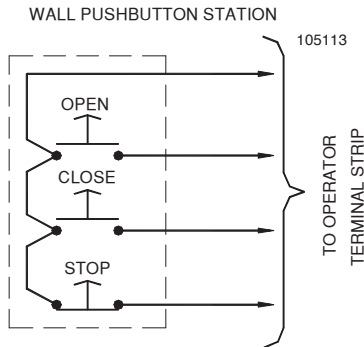
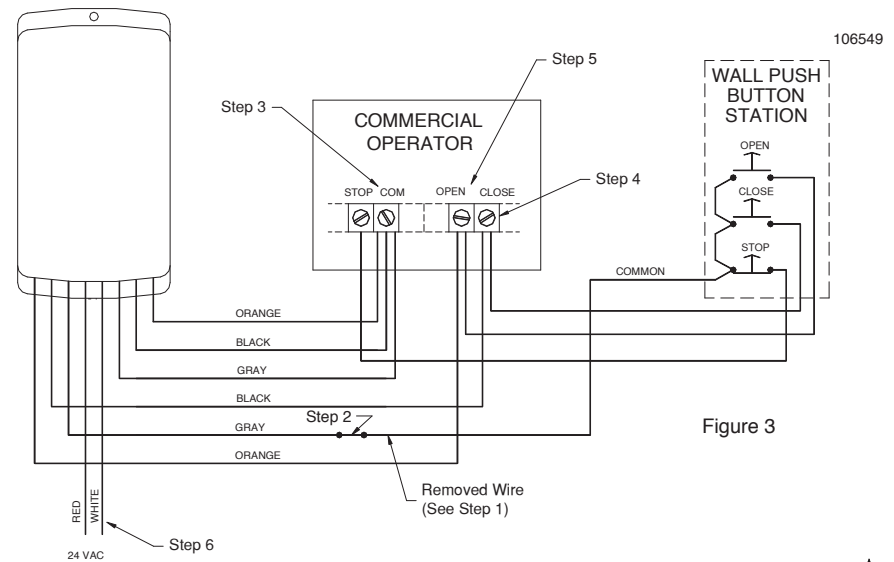

Figure 2
Figure 3
- Check the wire & connections in the STOP circuit. Refer to Figure 3.
Typical 4-wire 3-button stations are wired as shown in Figure 2. Number 18 gauge wire or heavier must be used for wiring the control stations and the MVP-831E receiver to the door operator. Smaller gauge wire may cause operational problems, especially when multiple 3-button stations are used. For typical installations the MVP-RE receiver is mounted near the door operator, away from any high voltage conduits or steel support beams. For wiring, follow the steps below and refer to Figure 3.
3. Connect the following wires from the MVP-RE to the operator 3-button COMMON (as shown in Figure 3):